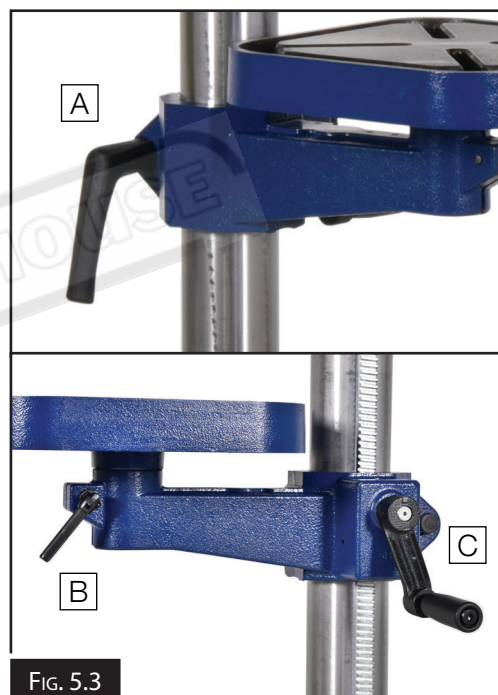

FIG. 5.3
1. To raise or lower the table, first release the table clamp (A) the clamp handle.
2. Then the table can then swing to the right or left to the desired position. The table can also be raised or lowered with the table crank (C) (Fig. 5.3)
3. When in position tighten the clamp handle (A).
4. The table can also be swivelled by releasing the table swivel lock (B)
5. When in position tighten the table swivel handle (B).